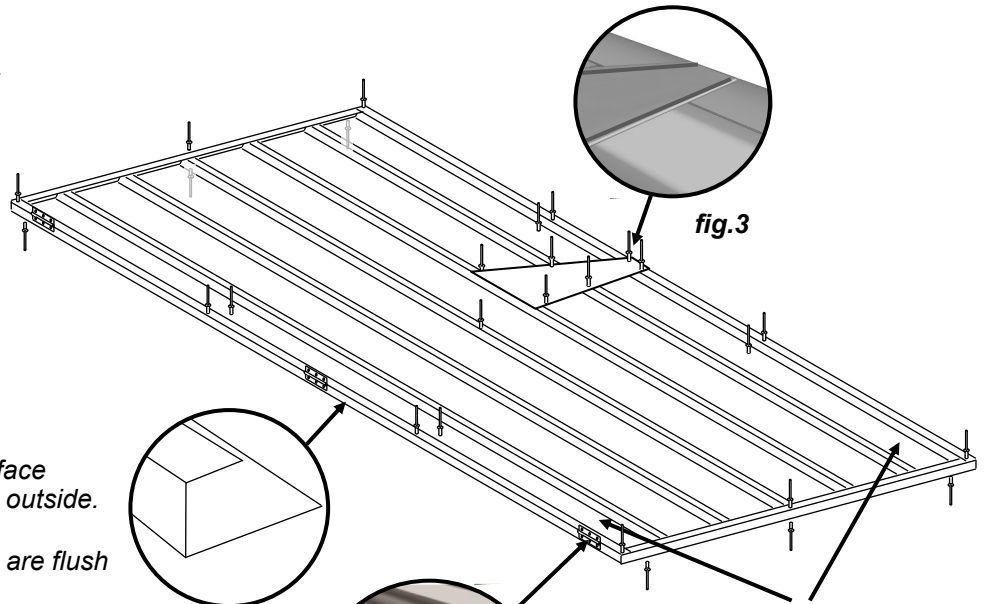

fig.3
- Using six rivets, attach padbolt support as shown in fig.3.